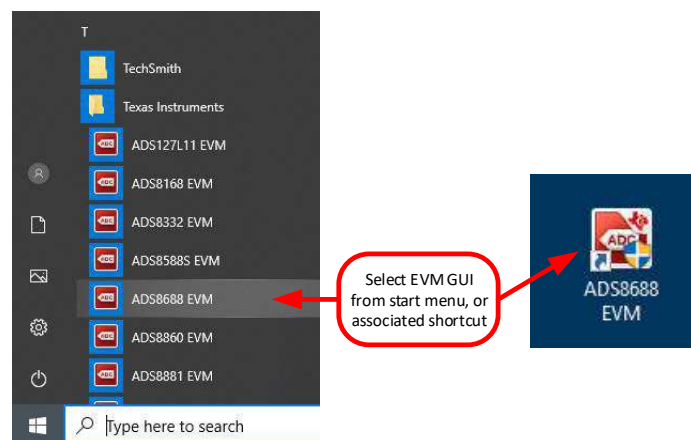

Figure 7-2. Launch the EVM GUI Software
| Figure 7-2. Launch the EVM GUI Software..... | 11 |
3. Start the software GUI as shown in Figure 7-2. You will notice that the LEDs blink slowly as the FPGA firmware is loaded on the PHI. This will take a few seconds then the AVDD and DVDD power supplies will turn on.